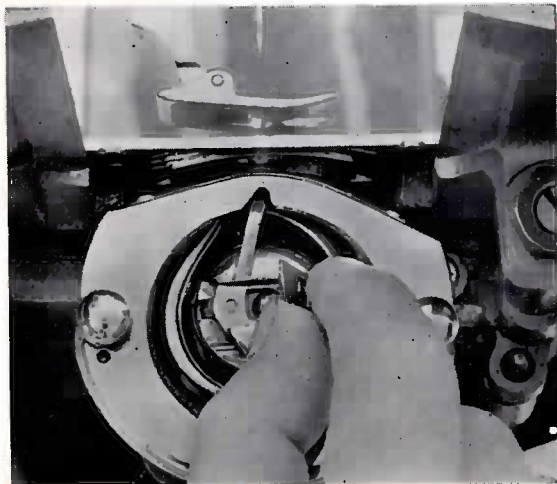

Fig. 7
- 4) With the thumb and forefinger of the left hand, grasp the bobbin case latch with thread coming from the top. Slide out the case (Fig. 7).